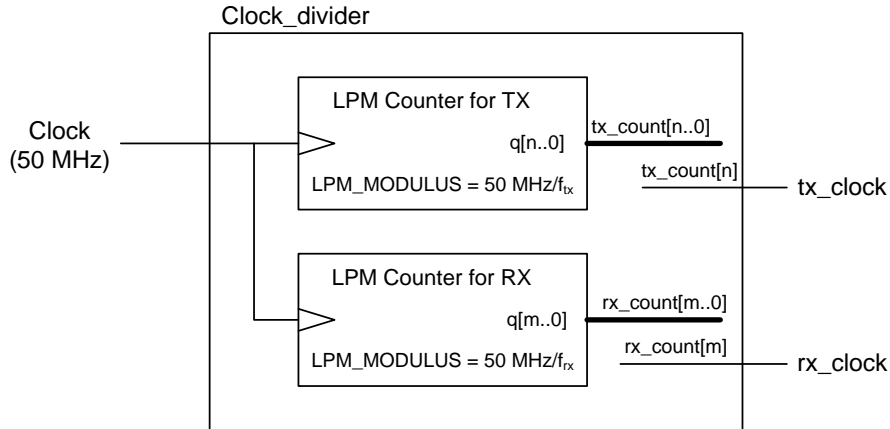

Figure 5 Clock Divider for Tx and Rx
The clock divider is a top-level VHDL or Block Diagram File with two LPM counters clocked by the 50 MHz DE1/DE2 Board clock. A block diagram is shown in Figure 5.
- MSB of **q** maps to **tx_clock** or **rx_clock**, as shown in Figure 5.